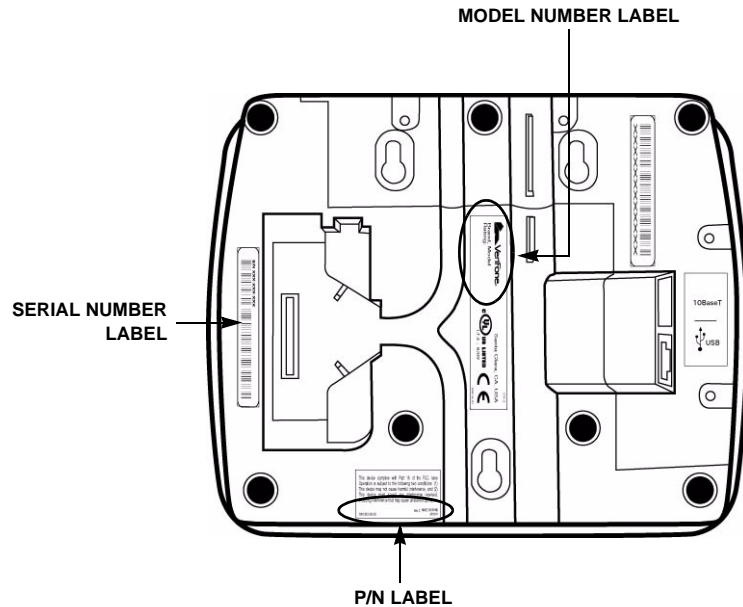

Figure 27 Product Information Labels
- 1 Gather the following information from the printed labels (see Figure 27) on the bottom of *each* Omni 7xxxMPD Series terminal to be returned:
- VeriFone serial number assigned to the Omni 7000MPD Series terminal you are returning for service or repair (terminal serial numbers are located on the bottom of the unit (see Figure 27).